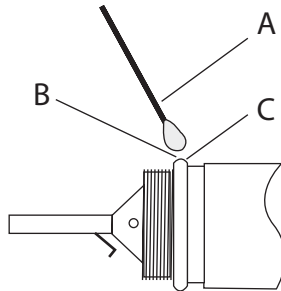

**Figure 1: Probe nose cone removal**
2. Rotate the nose cone portion of the probe counterclockwise until the nose cone is completely separated from the probe (Figure 1).